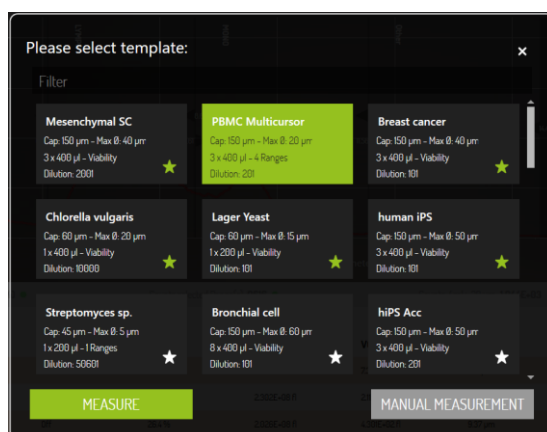

Figure 16: Template window opens after clicking on Measurement. A Template can easily be chosen and the measurement started
Measuring a sample using an existing template can be done by clicking on “Measure”. Next a pop up will appear containing all existing templates (see Figure 16). The template that has been used most recently is preselected. To select another one, just click on the corresponding template. Clicking on “Measure” will start the measurement. After the measurement is finished the result will be displayed in Graph View (see Figure 17).
- + Click **Manual Measurement** (see Figure 16) and a new window will open (see Figure 19)